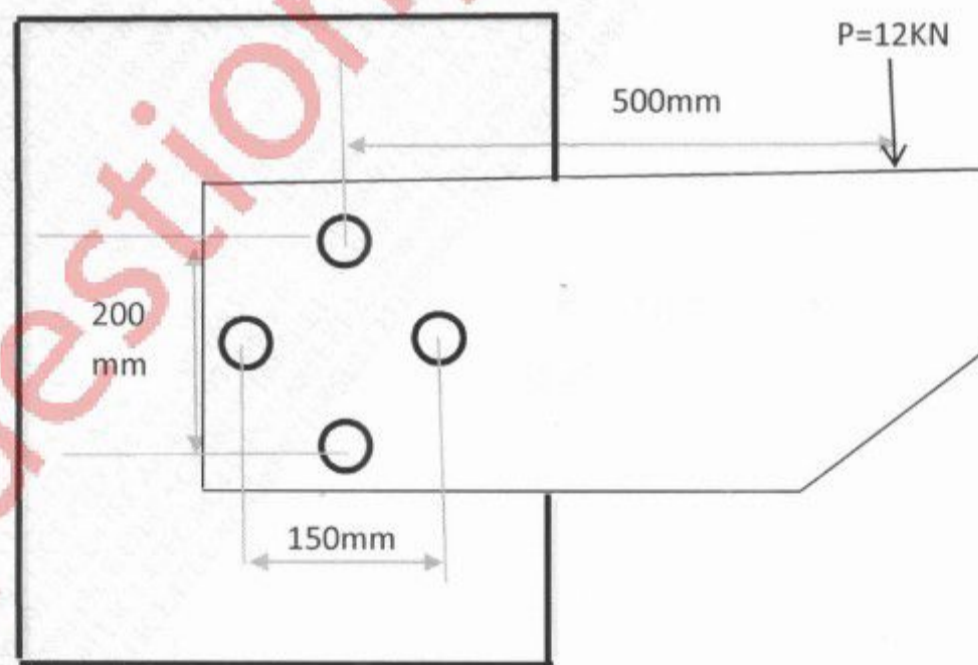

Figure:1
- (b) A bracket is supported by four rivet of equal diameter as shown in figure 1 is use to support a load of 12KN. Determine the size of the rivet taking the permissible shear stress as 60MPa. **10**